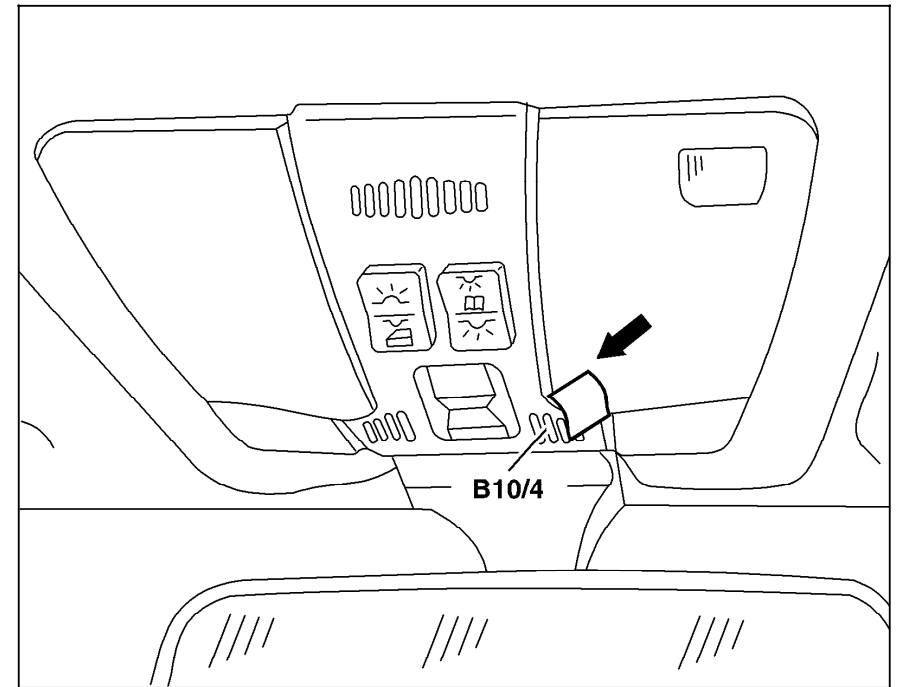

Figure 1
3. Check in - car temperature sensor by placing a small piece of paper (approx. " sq.) over aspirator blower vent grille with ignition "ON" (arrow, Figure 1). If there is sufficient ventilation the paper will remain on the vent grille, if not check aspirator blower for voltage supply and function. The after - run time for the blower motor is approx. 1 minute.